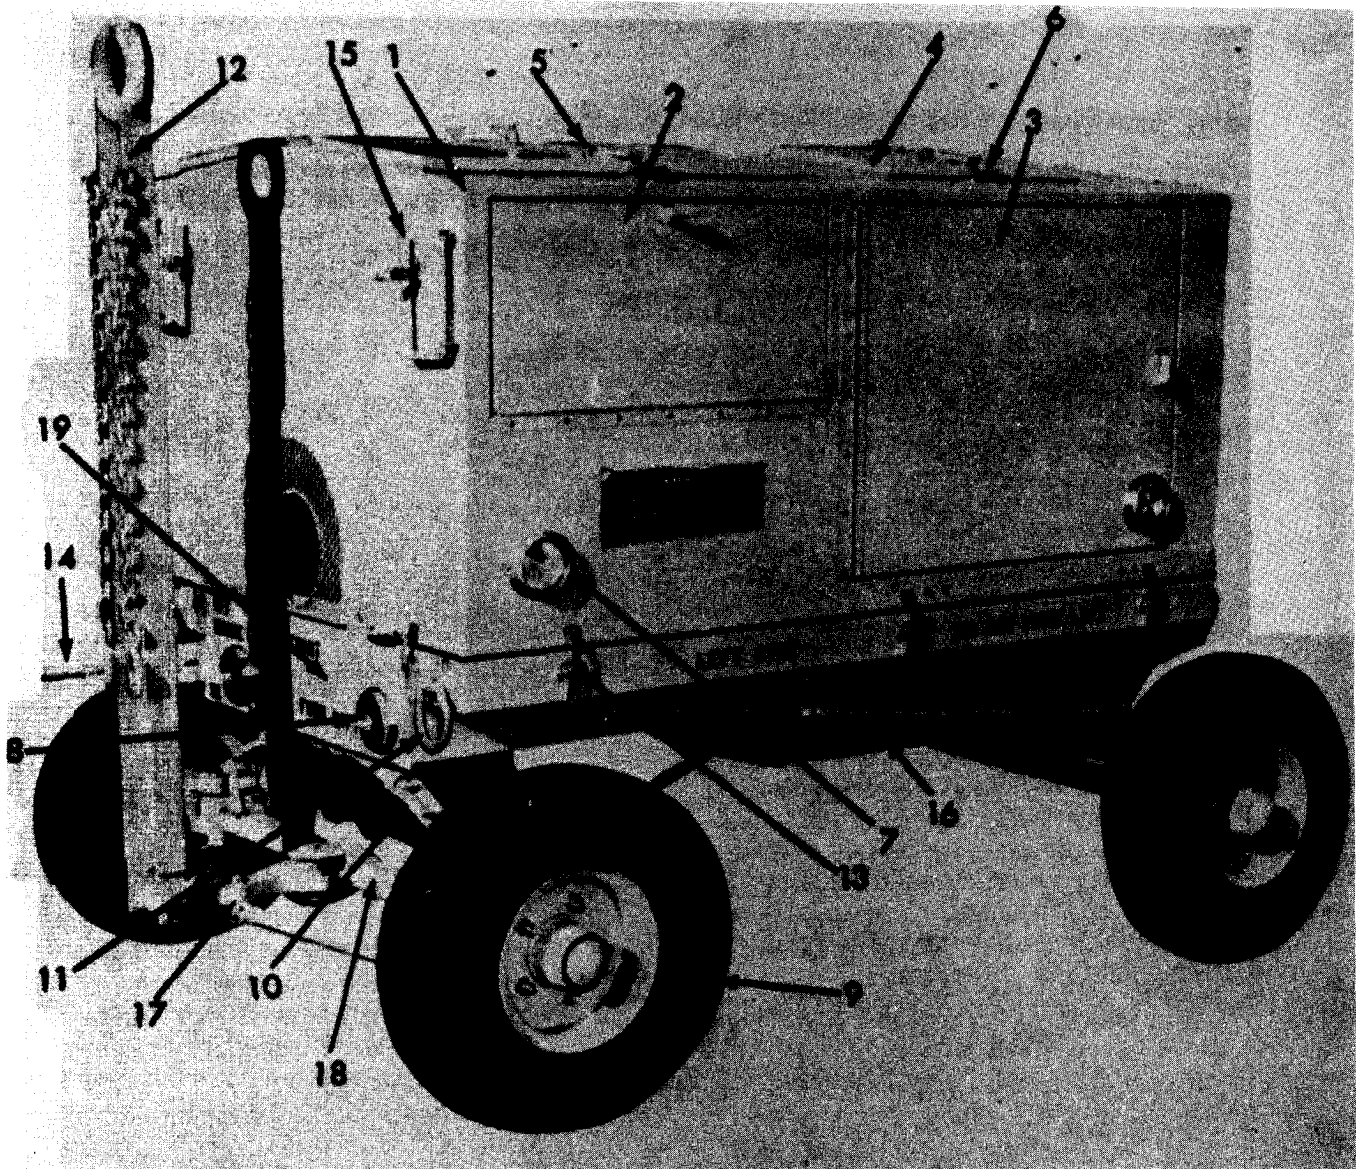
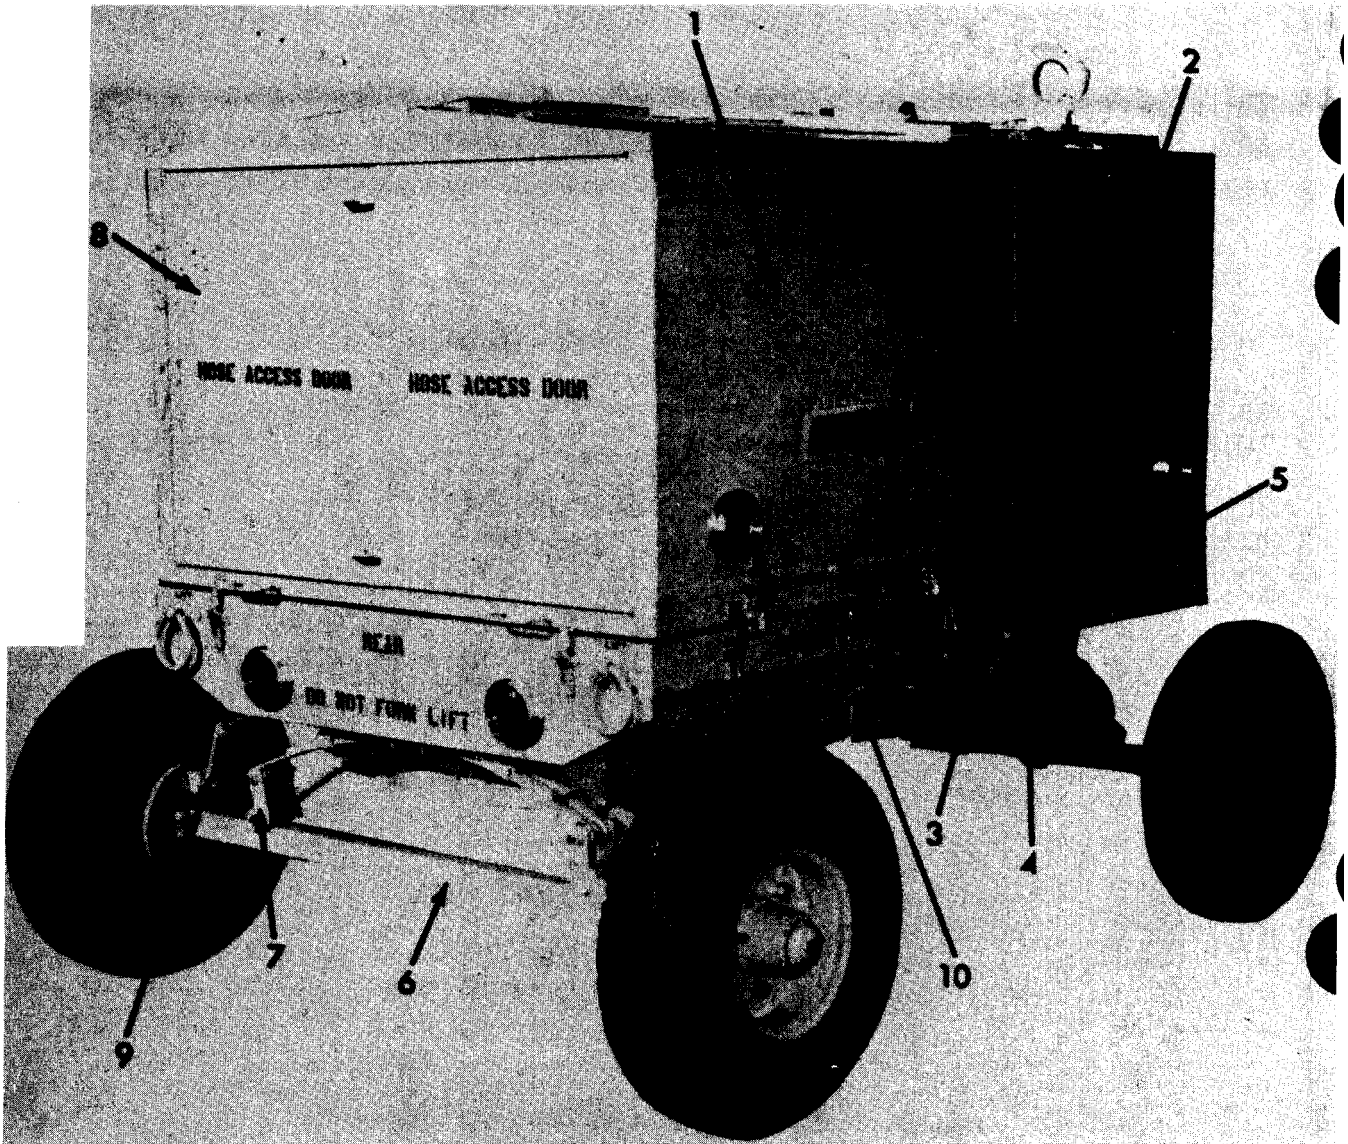

Figure 1 Hydraulic Test Stand D-5B
Figure 2 Hydraulic Test Stand D -5B
hold the test stand in a fixed position during operations. The trailer rolls on pneumatic tires (9-Fig. 1). Tie-down rings (11-Fig.1) are provided for lifting or lashing down the test stand.
1-4.3.Fluid Oil Reservoir. This reservoir (7-Fig.7A) is mounted in the upper rear of the housing assembly with the reservoir fill cap (7-Fig.6) accessible through the fluid tank overhead access door assembly (4-Fig.1). A reservoir shutoff valve (18-Fig.8) is provided for isolating the test stand reservoir from the hydraulic system when using fluid from the aircraft reservoir or when the test stand is utilized to drain the hydraulic system of the aircraft. Door assemblies (3&4-Fig.1) provide access to the reservoir for service and maintenance.
1-4.5. The rear compartment (Fig.3) of the test stand contains the service hoses and related hose accessories. This compartment is accessible through the rear end access doors (8-Fig.2). The rear bulkhead (2-Fig.3), accessible through the rear access doors, contains handhole openings designed to facilitate maintenance of the test stand. The fluid volume control (3-Fig.3) for pump volume adjustment is mounted on the rear bulkhead. The control panel access door (1-Fig.2) gives access to the Minor Control Panel (11-Fig.6) which houses the fluid high pressure gage, low pressure gage, fluid temperature gage, ammeter, engine fuel gage, engine oil gage, engine tachometer and hourmeter, high pressure filter warning light, low pressure filter warning light, fuel tank level indicator and oil reservoir (fluid) level indicator (1 thru 11 - Fig.8).
(B) The Engine Overhead Access Doors (5-Fig.1) allow entry and ventilation to the engine compartment. These doors are provided with a fastening device to hold doors in a fully opened position.
(C) The Engine Access Side Doors (2-Fig. 1 & 2-Fig.2) permit entry to the engine compartment and supply ventilation to the engine.
(D) The Fuel Tank Access Door (3-Fig.1) allows access to the fuel tank (12-Fig.6 & 13-Fig.7A) and fuel filler spout. Mounted on the inside of the access door is a holder for storing the test stand instructions manual and related literature.